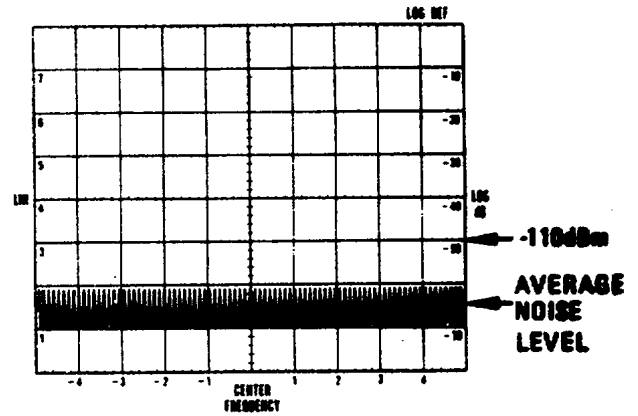

Figure 4-13. Residual Response Test
- 3. Observe the display as the analyzer scans from 60 to 110 MHz. The average noise level should be less than -110 dBm and no residual responses should occur. Figure 4-13 represents a scan with no residual response, and with the average noise level indicated.
- 4. Set FREQUENCY to 35 MHz and observe the display as the analyzer scans from 10 to 60 MHz. The average noise level should be less than -110 dBm and no residual responses occur. Figure 4-13. Residual Response Tat should occur.